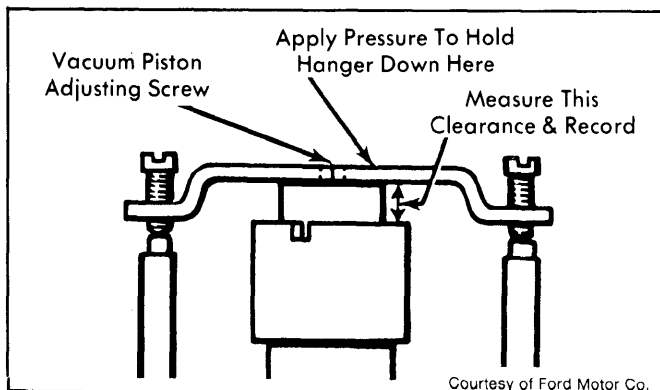

Fig. 9: Metering Rod Hanger & Vacuum Piston Measurement
Disassembly (Main Body) - 1) Invert main body assembly and catch accelerating pump discharge needle as it falls out. Turn main body right side up. Depress metering rod hanger and check gap between bottom edge of metering rod hanger and top of vacuum cylinder. See Fig. 9. Record measurement for reassembly reference.
3) Hold metering rod hanger in full downward position. Turn each metering rod adjusting screw clockwise until hanger just starts to rise. Turn vacuum piston screw clockwise until clearance between bottom of hanger and top of cylinder is reached. Adjust clearance to that recorded during disassembly. See Fig. 9.